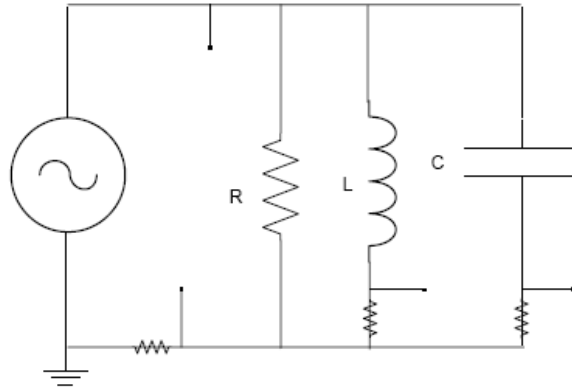

Fig. 5. The experimental setting to record resonance. $R= 100 \Omega$, $L=10 \text{ mH}$, $C= 1 \mu\text{F}$.
7. Construct the circuit of Figure 5. Set the supply to 1 V in the sinusoidal mode.
5. (a) For the circuit of Figure 5, draw on separate graphs the magnitude and angle of the circuit impedance vs the frequency of the source. Use your measurements. Mark the resonance frequency on the graph. Compare with the theoretical value. What is the magnitude and angle of the circuit impedance at resonance? In what frequency range is the impedance inductive? In what frequency range is the impedance capacitive?